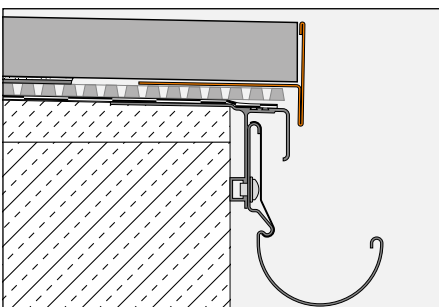

Fig. 2
- 3.2 When installing on top of Schlüter-TROBA-PLUS with thin bed moulding rings, Schlüter-TROBA-STELZ-DR (Fig. 2), the Schlüter-BARA-RT finishing profile will cover the exposed edge of the assembly. The outside thin bed contact points are positioned on the trapezoid perforated anchoring leg of Schlüter-BARA-RT.